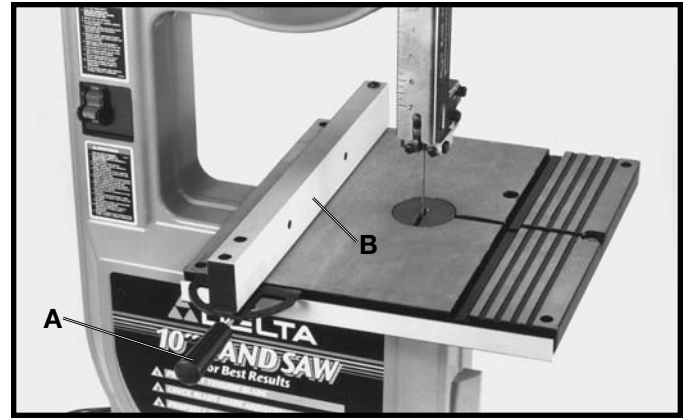

Fig. 43
An ideal accessory for use with your band saw is the 28-196 Rip Fence, shown in Fig. 43. It can be moved along the table surface by loosening lock lever (A), moving the fence (B) to the desired location and tightening lock lever (A).